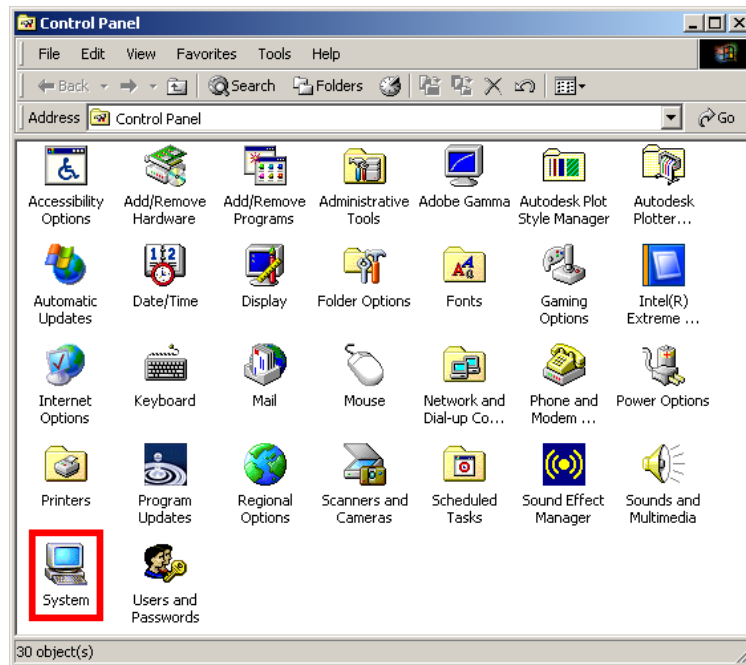

Figure 7-41: Double Click the System Icon
Step 2: Double-click the **System** icon (Figure 7-41).